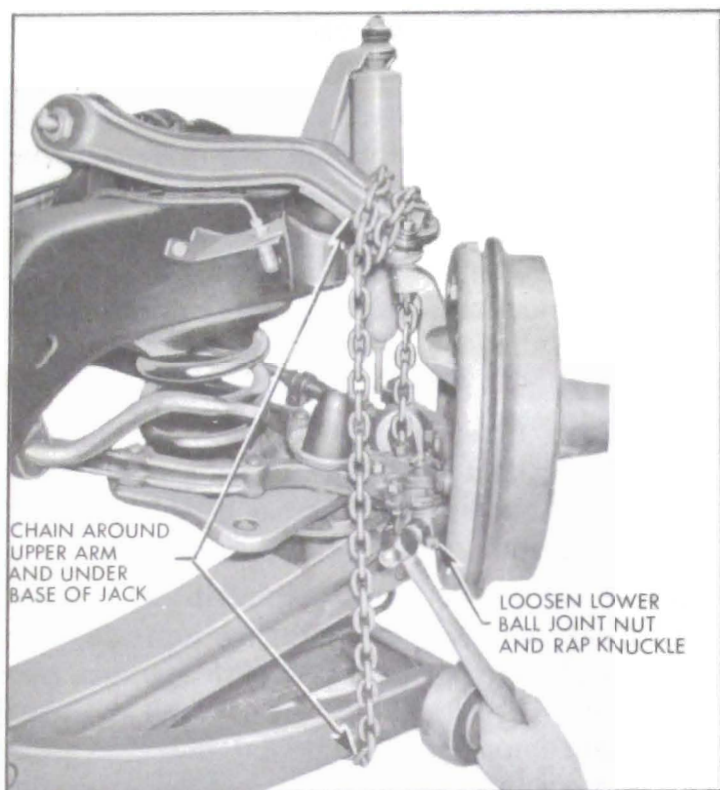

Figure 7-10—Separating Lower Ball Joint and Steering Knuckle
4. With car supported by frame, place jack under outer edge of spring seat. Wrap chain around upper control arm and under base of jack, fasten chain securely. See Fig. 7-10. Raise jack to place tension on lower ball joint stud.